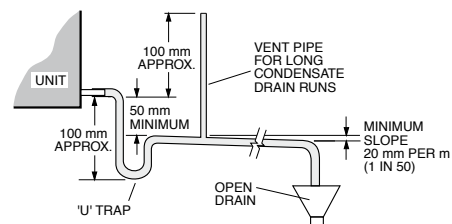

Figure 3 Condensate Drain
*HWP 78-275:* The unit must be mounted with sufficient height for the condensate drain to be 'U' trapped outside the unit (see fig.3). Alternatively fit a condensate lift-pump.